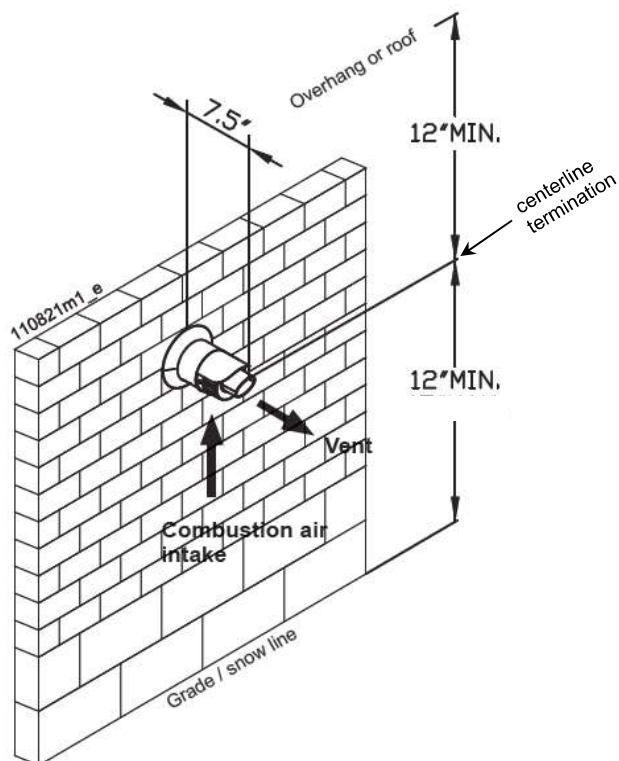

Figure 10.21
Description and usage: concentric combustion air and exhaust vent pipe termination. Both combustion air and exhaust vent pipes must attach to the termination kit. The termination kit must terminate outside the structure and must be installed as shown below in Figure 10.21. The required combustion vent pipe materials are listed in Table 10.4 of this manual.
NOTICE	Ensure termination location clearance dimensions are as shown in Figure 10.21.
5. The exhaust piping must terminate in a vertical coupling as shown in Figure 10.21. The top of the coupling must be at least 1 foot above the air intake. When the vent termination uses a rain cap, maintain at least 36" (914 mm) above the air inlet. The air intake pipe and exhaust vent pipe can be located in any desired position on the roof, provided that the exhaust vent termination is at least 1 foot above the air intake.